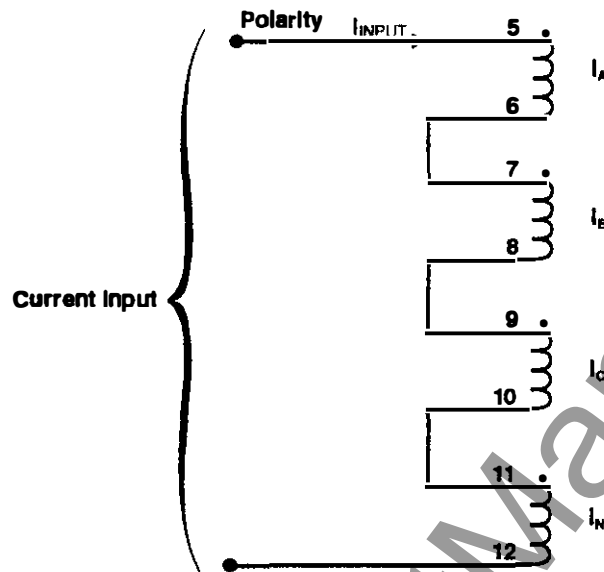

FIGURE 7-4 Single-Phase Current Input Configuration for Calibration
- e. Connect and configure the current inputs (I_A , I_B , I_C and I_N) according to Figure 7-4.